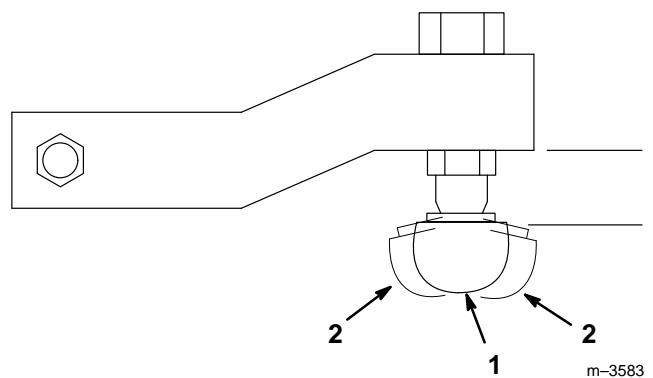

Figure 44
**IMPORTANT: Make sure that the flat surface on the top of the front tie rod ends is parallel to the bottom of the steering arm (Fig. 44).**